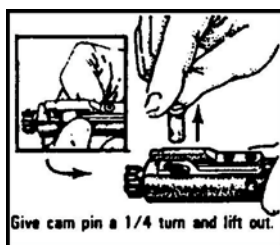

Figure 15. Removing the bolt cam pin.
- m. Remove the bolt cam pin by turning it one-quarter turn and lifting it out (Figure 15).